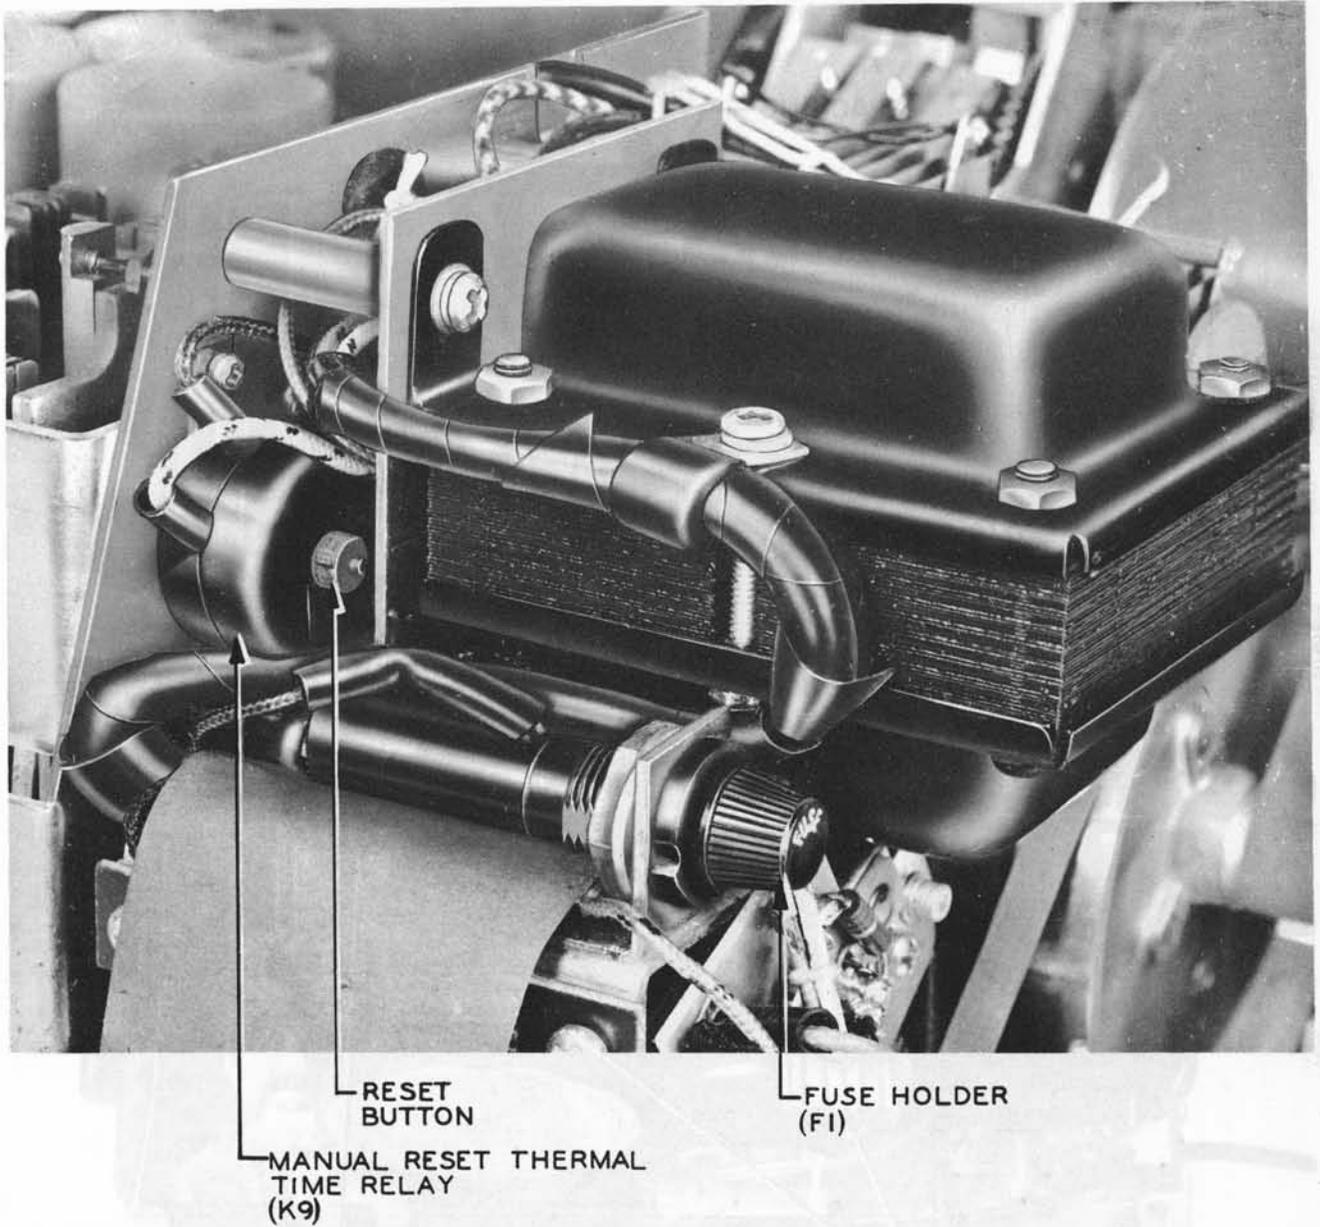

Fig. 11 – Reset Button and AC Fuse Holder
1.16 Fig. 11 identifies the reset button and the ac fuse holder.